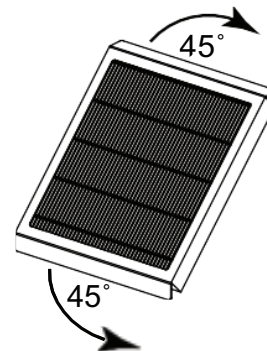

Fig. 26 – Bend Flaps to 45°
12. Bend the two MERV13 flaps down to form a 45-degree angle (Fig. 26).